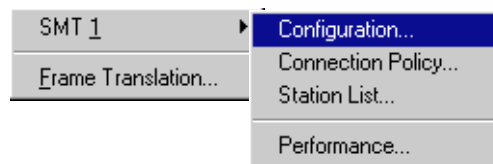

Figure 6-1. The FDDI Menus
1. In the Chassis View window, click on the **FDDI** menu option to display the FDDI menu. Select the Station Management (**SMT**) entity that you want to monitor to reveal the following FDDI menu (Figure 6-1).